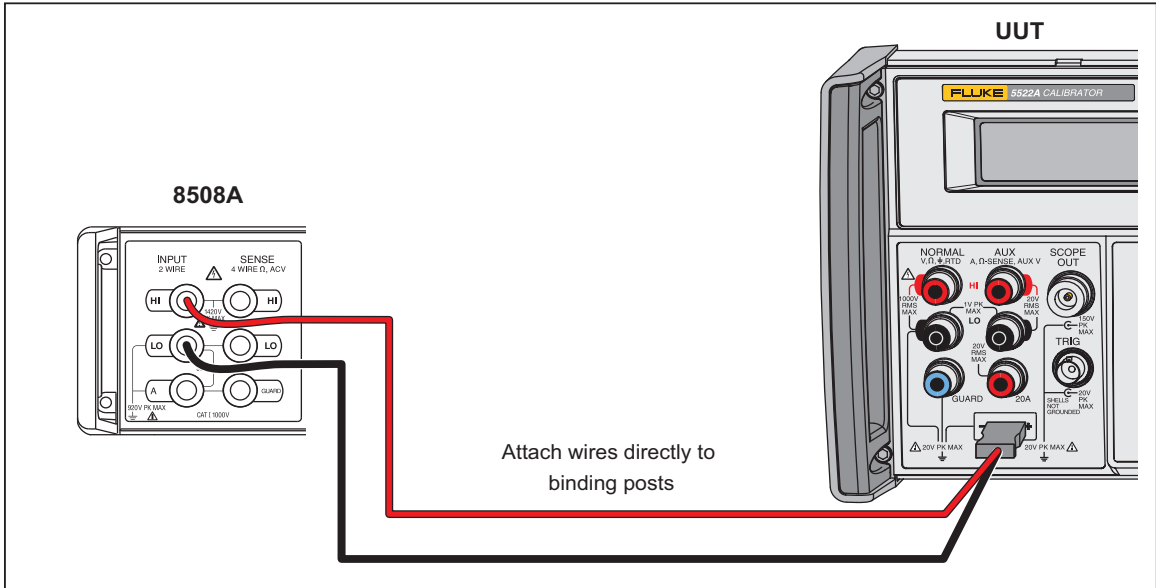

Figure 3-4. Thermocouple Source Calibration Connections
3. Connect the 8508A to the TC terminals with solid copper telephone wire and a copper (uncompensated) TC miniplug as shown in Figure 3-4. Attach the wires directly to the Reference Multimeter binding posts. Set the Reference Multimeter to read dc millivolts.